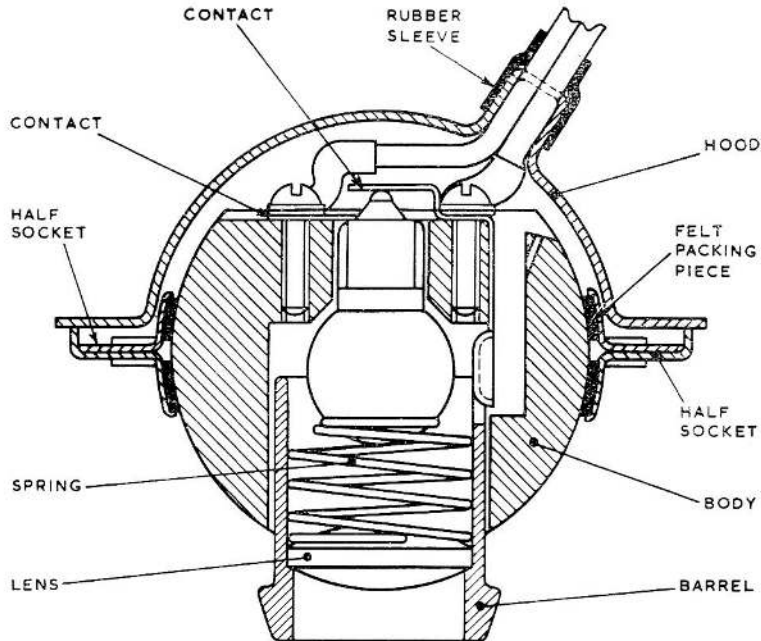

Fig. 1. Sectional view
2. The lamp is essentially a plastic moulding seated in an aluminium fixing ring. A sectional view is given in fig. 1. The barrel, which contains a focusing lens, is retained in the spherical housing by means of a small grub screw, whilst the filament lamp is held in the lamp socket under spring pressure.